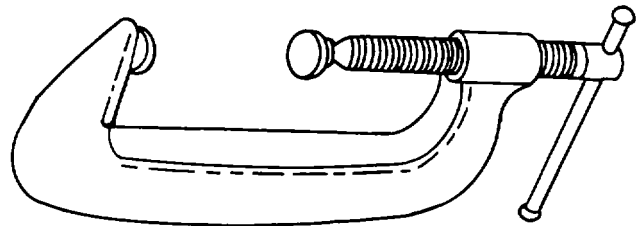

Figure 4-55. Carriage Clamp
b. Carriage Clamps. The carriage clamp, commonly called a C-clamp, is constructed in the shape of a large C, as shown in figure 4-55. It is tightened by use of a screw threaded through one of the bars and has a swivel plate to prevent the end of the screw from turning against the item being clamped. C-clamps are used to hold work which cannot be held in a vise, or which has to be held for an extended period of time. They are available in a variety of sizes.